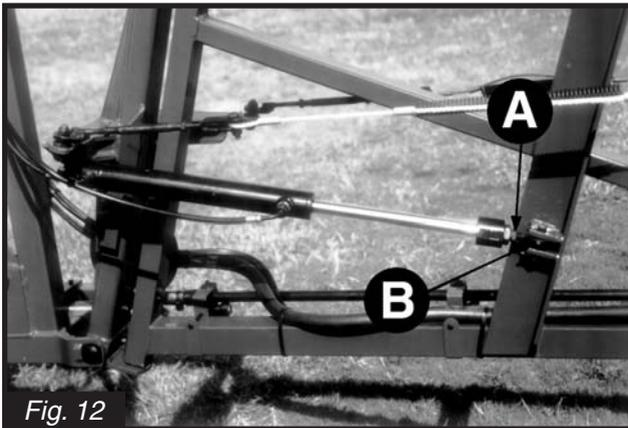

Fig. 12
4. Disconnect cylinder rod eye (**B**)(Fig. 12) from the intermediate boom section.
5. Loosen jam nut (**A**)(Fig. 12) and adjust rod eye (**B**)(Fig. 12) IN to move boom forward or OUT to move boom rearward. Then retighten the jam nut (**A**)(Fig. 12).